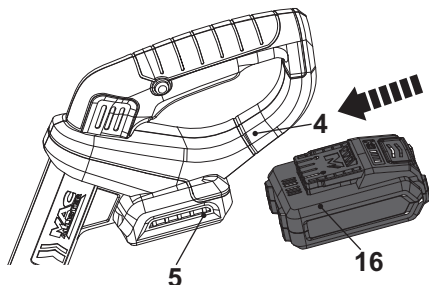

Fig. 2
1. Align the battery pack (16) with the sliding slots of the battery docking port (5) under the rear safeguard (4) and slide the battery pack in to attach it. Ensure it clicks in place (Fig. 2).